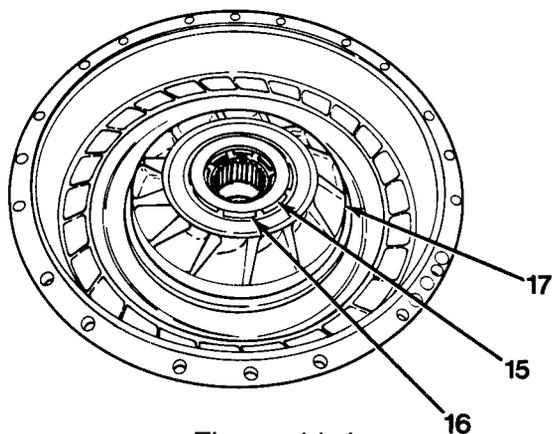
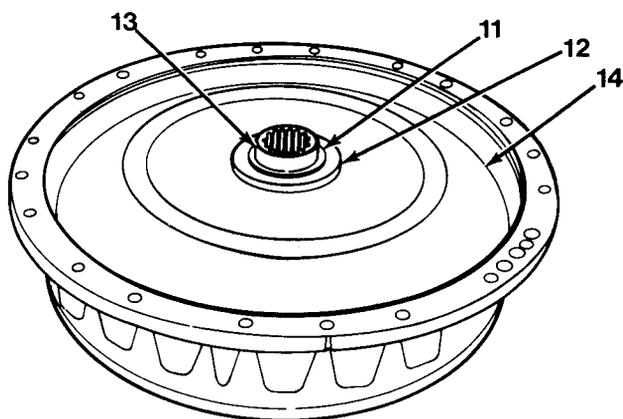

Figure 11-4
Figure 11-3
6. Install stator assembly (17, Figure 11-4).
7. Install thrust race (15), thrust bearing (16) and thrust race (15).
8. Install turbine (14) and turbine hub (13, Figure 11-3).
9. Install thrust race (11), thrust bearing (12) and thrust race (11).